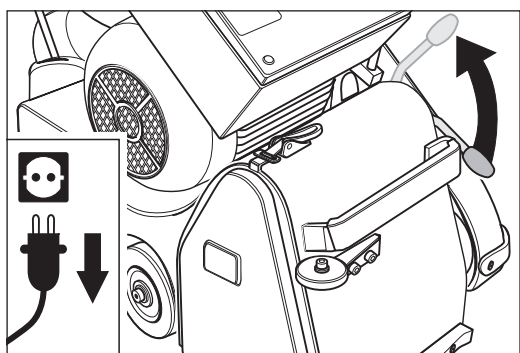

Fig. 7 Pull the operating lever of the drive unit upwards. Similar to figure.
- 7 Pull the operating lever of the drive unit upwards to bring the tensioning roller down (Fig. 7).